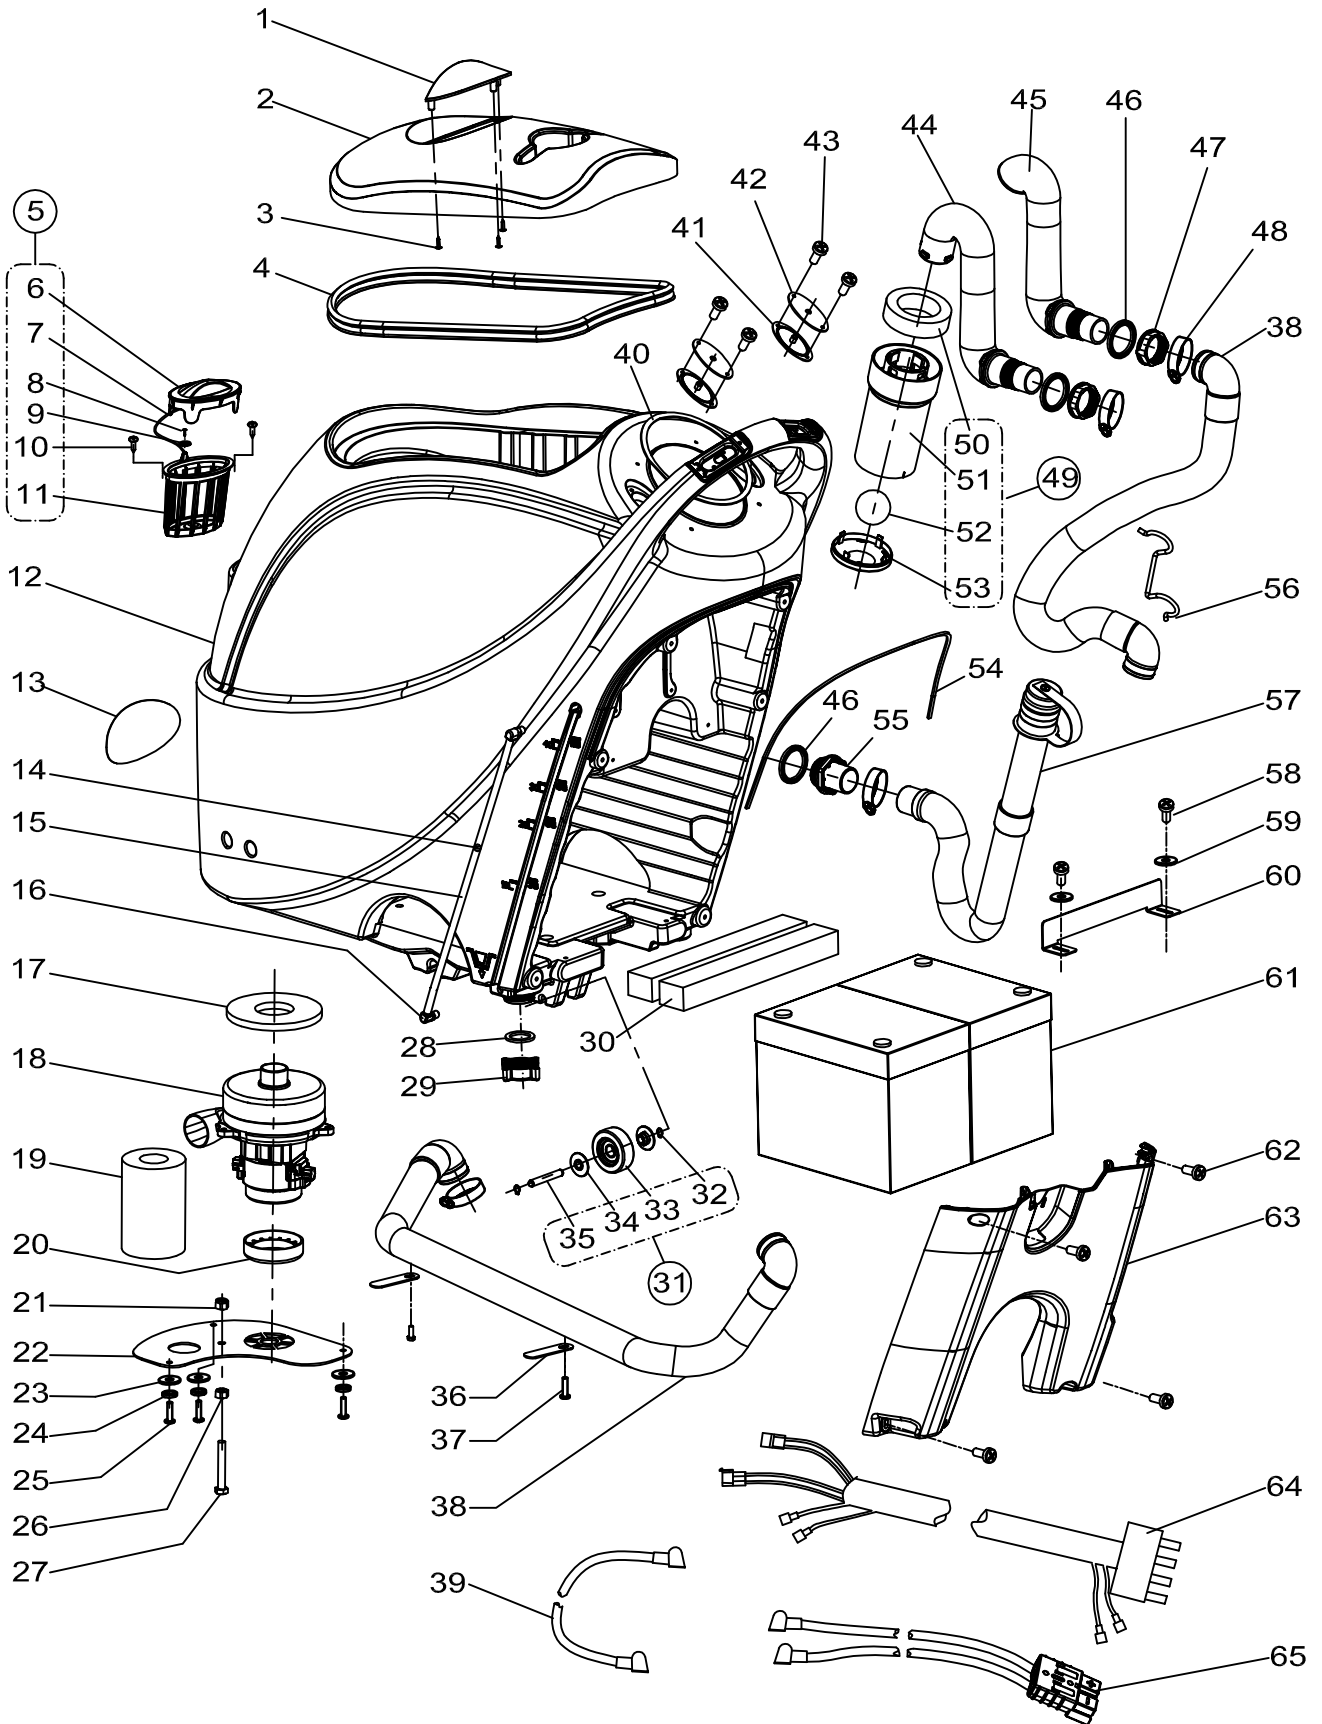

**Figure 17**
3. Press the power switch (41) to the "O" position to turn off the machine.
4. Turn off the draining ball valve (A, Figure 17) (located at the bottom of the machine, behind the wheels). Position B ball valve open, and position C ball valve closed.
5. Remove the transparent cap (D), and then take off the filter (E), and install them onto the filter box (F) after cleaning.